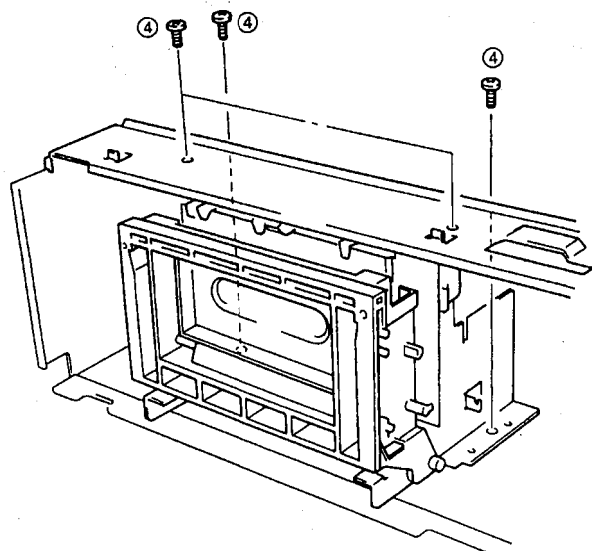

Fig. 3
- a. Remove 4 screws (④) in Fig. 3.